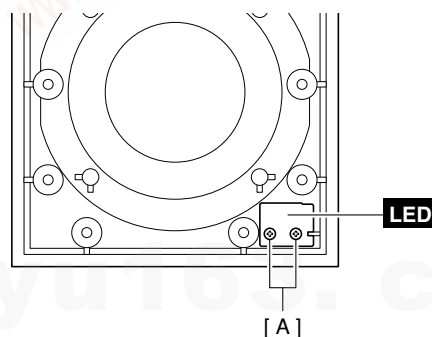

Fig. 10 (図 10)
- 6-2 Remove the two (2) screws marked [H]. The LED circuit board can then be removed. (Fig. 10)
- 6-2 [H]のネジ2本を外し、LEDシートを外します。(図 10)